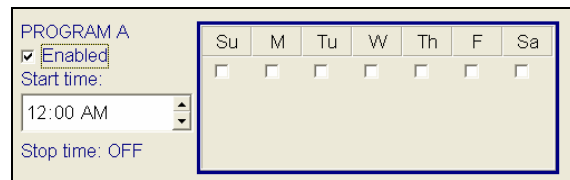

Figure 16.1.8A
- Next check the **Enable** box for each program that you want to use (Figure 16.1.8A).